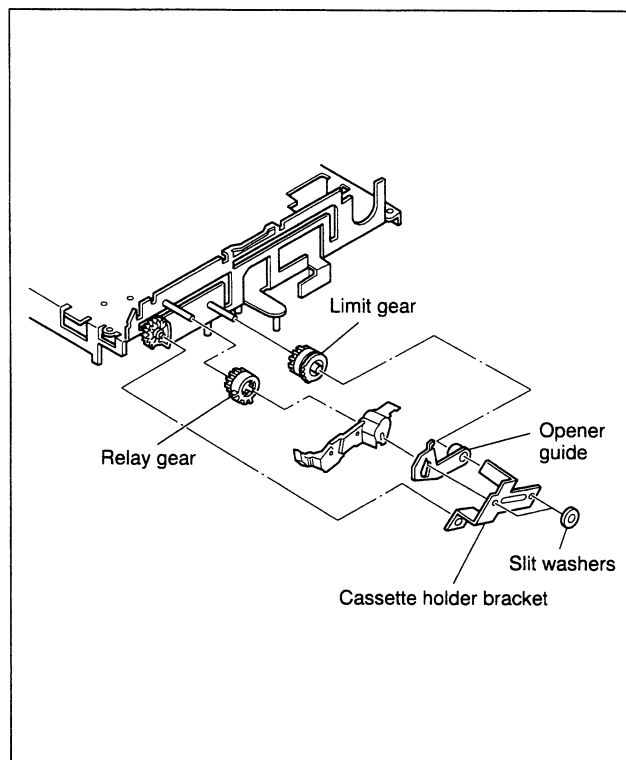

Fig. 2-2-3
(2) Remove the two slit washers and remove the cassette holder bracket. (See Fig.2-2-3)
(3) Remove the opener guide, relay gear and limit gear. (See Fig.2-2-3)